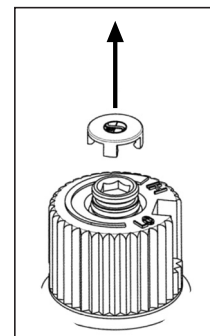

Figure 12: Removing valve cap.
- c) Remove the black protection cap from the HI/LO knob by hand (Figure 12)
- h) Re-attach the black protection cap that was removed in step "c)". (Figure 12).